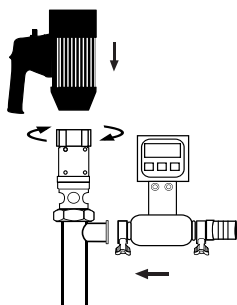

Figure 1
3. Couple the electric motor to the pump using the hex nut (see Figure 1).
4. Attach the Ultra Mag meter to the pump discharge using the supplied Tri-clamp® fitting (see Figure 1).
5. Attach the check valve (p/n:384510V) to the Ultra Mag meter using the supplied Tri-clamp® fitting. (see Figure 1)
6. Attach the hose barb to the check valve using the supplied Tri-clamp® fitting (see Figure 1).